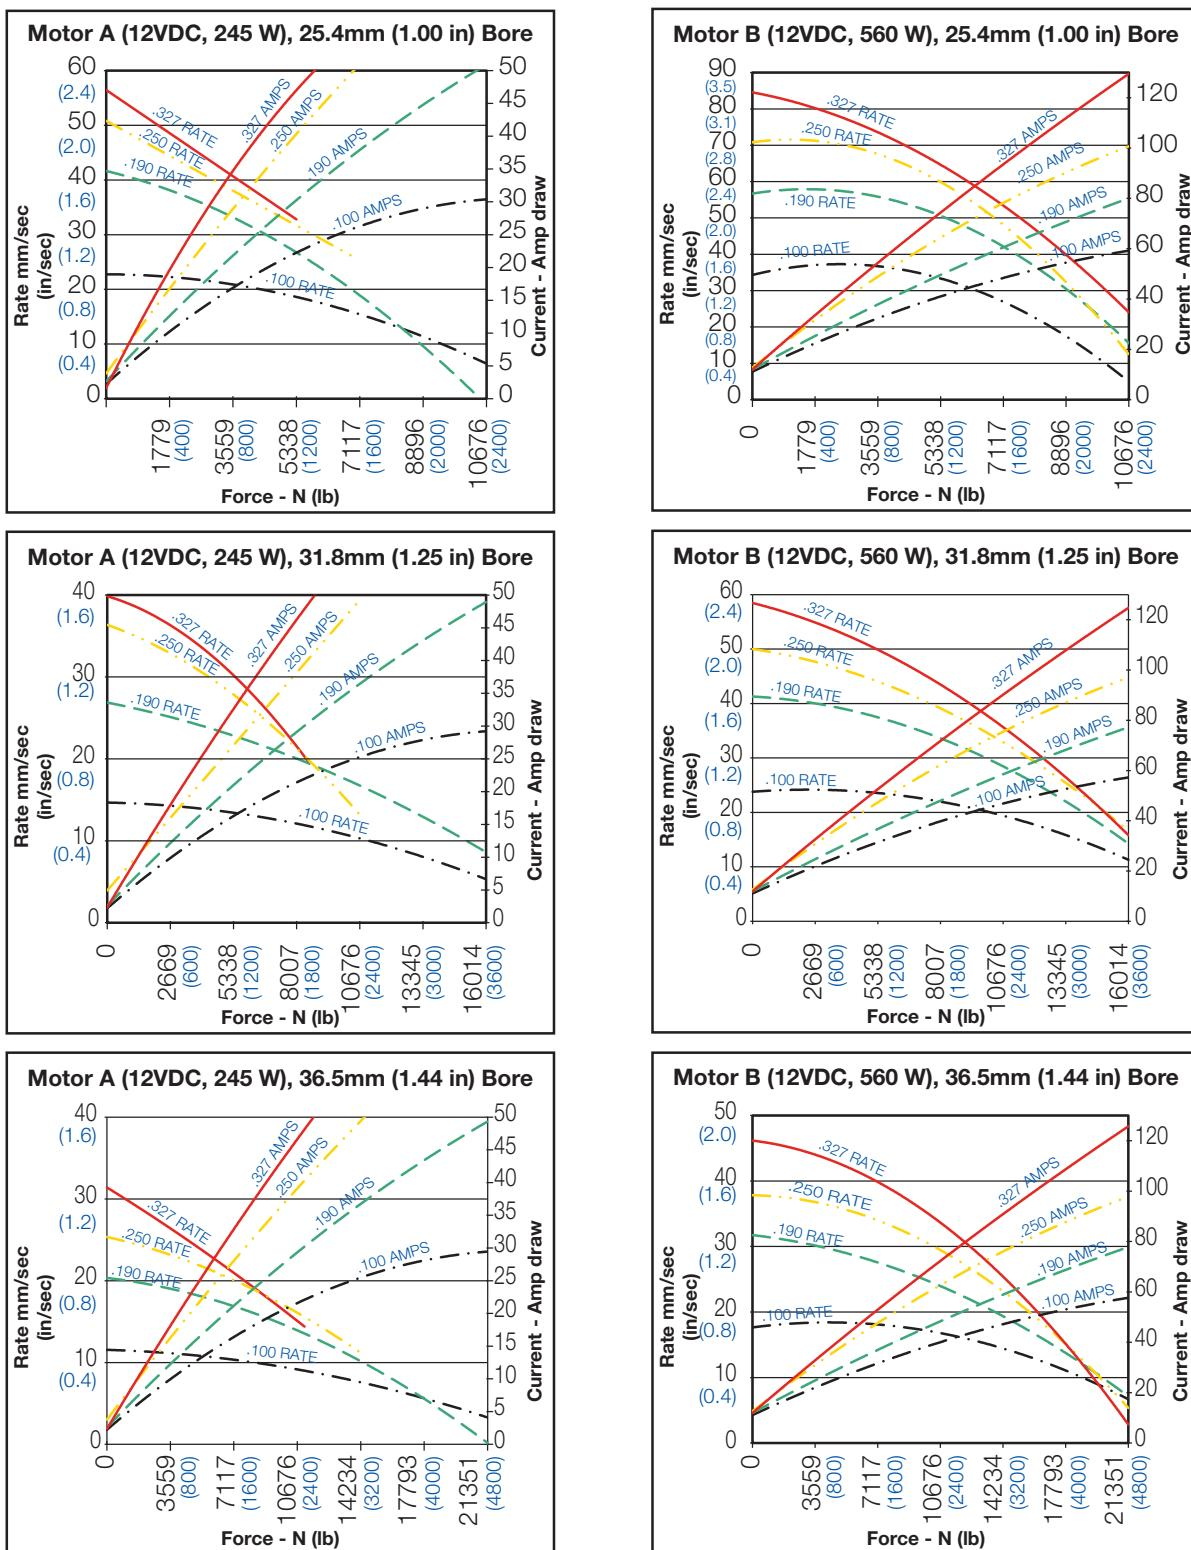
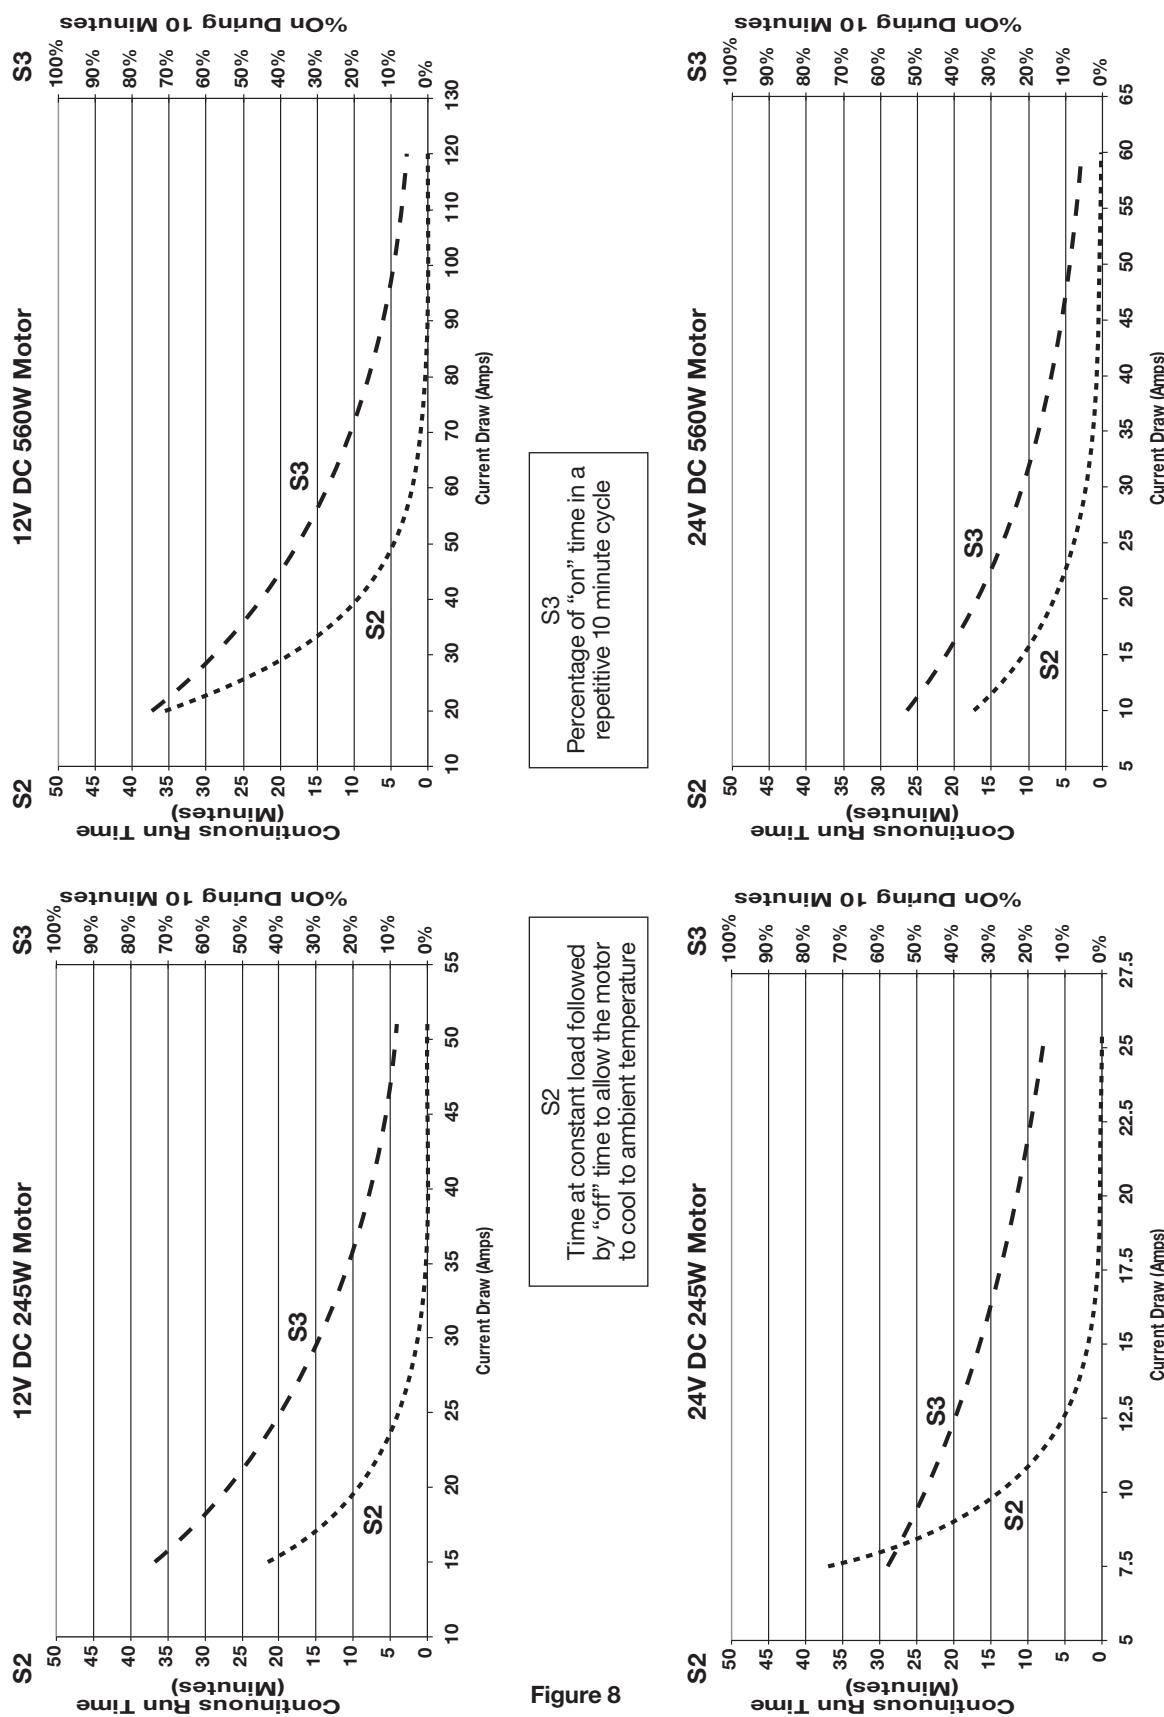

Figure 7
Figure 8
Fuse protection can be added to the wiring circuit if desired. Use a slow blow fuse so it will not be tripped from the inrush current. Make sure the fuse is sized above the maximum requirement for the application and below the maximum available from the power supply. See **Figure 7** for approximations of maximum amperage based on basic configurations.
See **Figure 7** for performance curves to identify parameters of operation and **Figure 8** to identify motor duty cycle characteristics.
5. EHA operating at a continuous duty cycle – cease operation. Discontinue use until required operation of the unit will fall within the duty cycle characteristics illustrated in **Figure 7**.